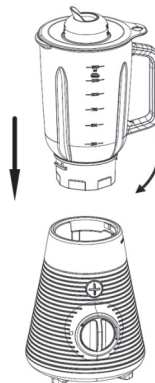

Fig. 2
5. Place the Glass jar assembly on the main body and rotate clockwise (FIG 2) in the direction of the arrow to lock firmly. See also chapter 'Safety locking system'.